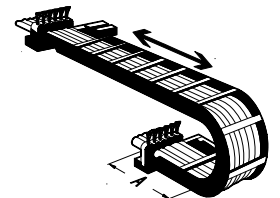

Fig. 2
- With long energy chains, in which the upper run lies on the lower run; fasten the cables only at the driver end (→ Fig. 2).